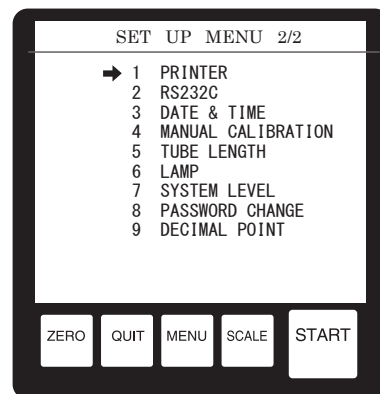

Fig.12-5
- a) Press the MENU key twice when a measurement value screen or the ZERO SET END screen is on the display panel. The screen shown in Fig.12-5 will be displayed on the display panel.